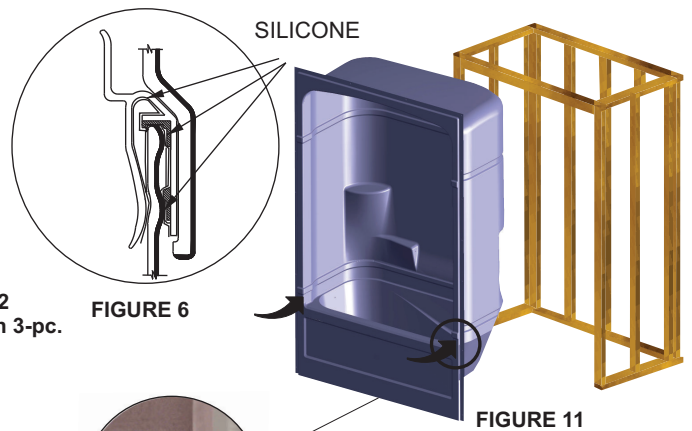

FIGURE 11
6. Repeat the same procedure to put the canopy or the upper portion in place. See Figure 11.
8. When fully assembled, carefully slide the unit into the frame by pushing the assembly at the bottom on the threshold. See arrows in Figure 11.